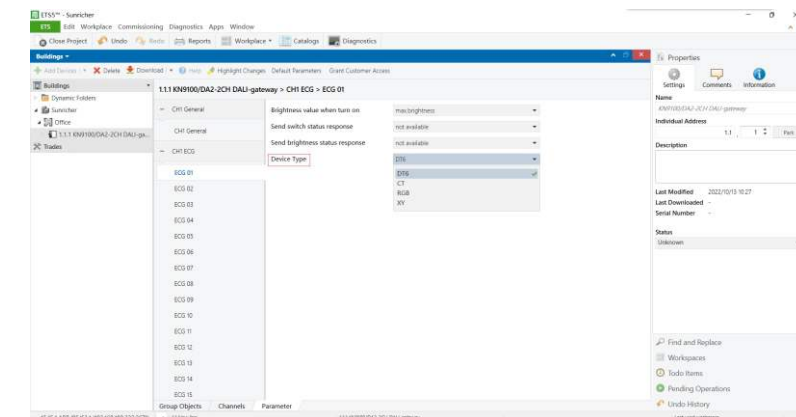

Figure 34
**Device Type:** means the device type of the ECG, drop down and tick a value, available settings are “DT6”, “CT”, “RGB” and “XY” as shown in Figure 34. This parameter should be set according to the device type of the discovered corresponding DALI control gear in DALI programming part. Corresponding DALI device types of the 4 values are as follows: “DT6” corresponds to “LED Converter” type in DALI Master, “CT” corresponds to “DT8 Tc” type in DALI Master, “RGB” corresponds to “DT8 RGB” type in DALI Master, “XY” corresponds to “DT8 XY” type in DALI Master.